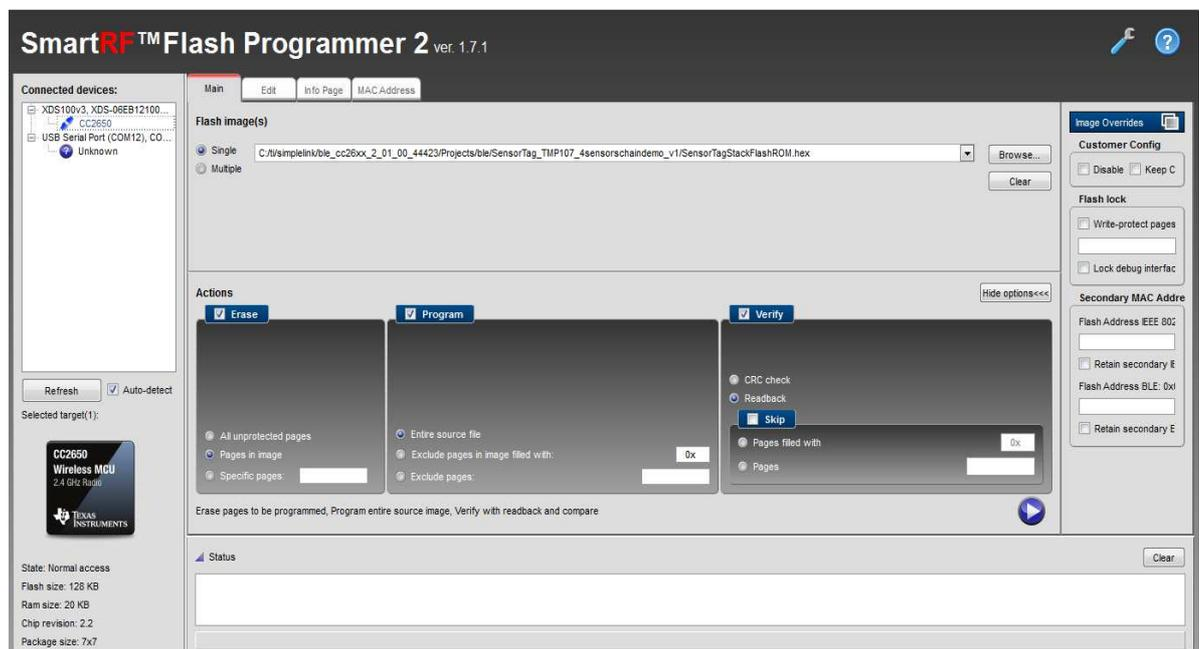

Figure 6: SmartRF Flash Programmer 2 interface
2. Run Flash Programmer 2 , connect your debugger and make sure that it appears in Connected devices section along with CC2650 chip as described in Figure 6 :